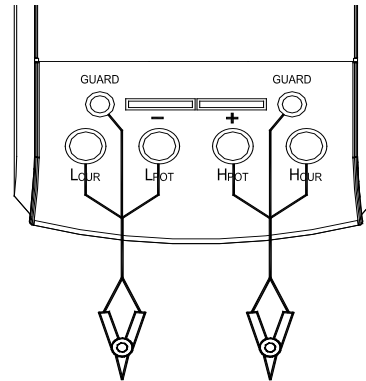

Figure 5
- b When using $L_{CUR}/L_{POT}/H_{POT}/H_{CUR}$ terminals , insert the black and red testing lines with alligator clip into the "L_{CUR}" , "L_{POT}" terminal and "H_{CUR}" , "H_{POT}" terminal respectively.(shown in figure 5).